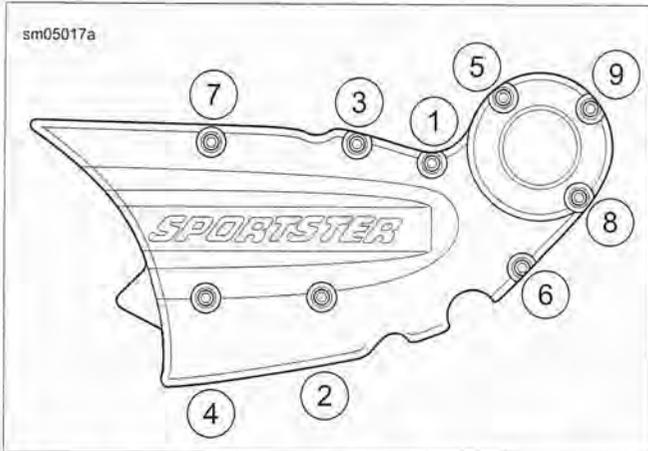

Figure 3-166. Oil Pump Cover Torque Sequence: XR 1200X
13. Install **new** O-rings in oil pump cover and install using six fasteners (4). Tighten fasteners to 90-120 **in-lbs** (10.2-13.6 Nm).
14. Install check valve housing using a new base O-ring. Tighten fasteners (3) to 84-108 **in-lbs** (9.5-12.2 Nm).
15. Connect rigid lines (1) and vent hose (2). See 3.13 PRECISION COOLING SYSTEM: XR 1200X, Oil Pump Lines.
16. See Figure 3-166. Install gearcase and oil pump cover. Secure with 9 socket fasteners. Tighten in the sequence shown to 90-120 **in-lbs** (10.2-13.6 Nm).